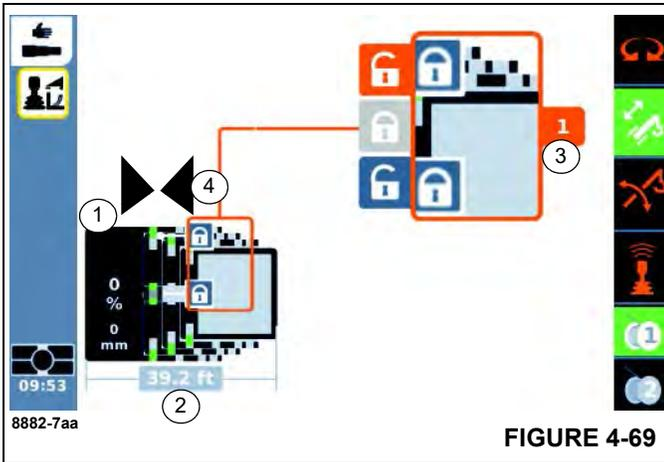

FIGURE 4-69
The display (1), (Figure 4-69) shows how far the telescoping cylinder is extended, e.g. 0%.
The display (2), (Figure 4-69) shows the current main boom length.
The display (3), (Figure 4-69) shows the corresponding telescopic section, e.g. telescopic section 1.